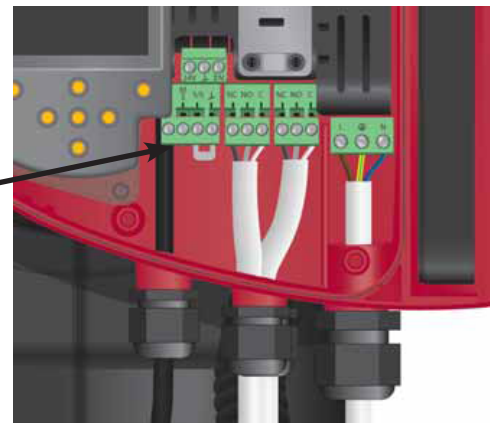

Figure 9: Start/Stop jumper
11. The Magna3 pump has an enable jumper that is factory installed (see Figure 9). With the jumper installed, the pump will run when it is powered. Depending upon the application (e.g. when all of the zone valves are closed with the pump operating in differential pressure mode), the pump could be in a dead-head condition if all of the heat pump zone valves are closed. There are two options to avoid dead-heading the pump, as follows:
b. For systems operating in constant differential pressure mode or constant curve mode, a pump enable relay will leave the pump off unless at least one heat pump is calling for heating or cooling. The pump enable relay (Geo-Flo P/N 3808) may be wired to up to five heat pumps, as shown in Figure 10. Remove the factory-installed jumper from terminal block (shown in Figure 9). Then, run two-conductor 18 AWG thermostat wire from the Magna3 pump to the Pump Relay Dry Contacts terminals at the pump enable relay.